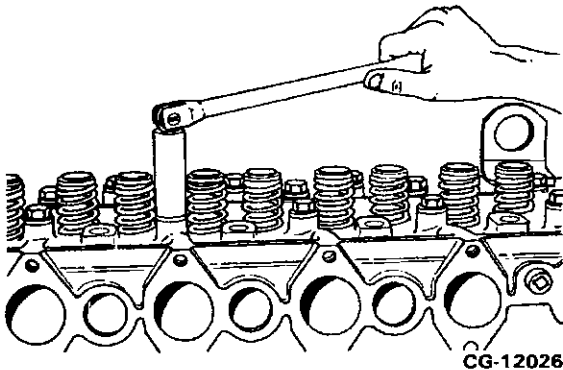

Figure 4.7. Remove "Short" Cylinder Head Bolts
5. Remove the remaining "short" cylinder head bolts. Refer to Figure 4.7.